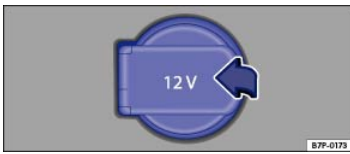

Fig. 126 Front center armrest storage compartment, luggage compartment, lower front center console: Opening the cover of the 12 Volt socket.
- Grasp the cover on the side ⇒ Fig. 126 and open it in the direction of the arrow; hold it open.